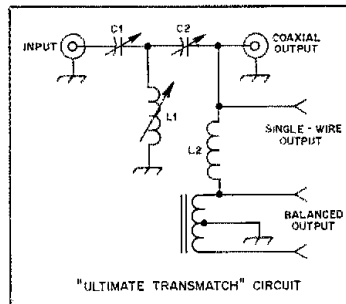

Fig. 1 — A small coil, L2, is added to the basic Transmatch circuit when needed to increase the effective value of output capacitance.
Fig. 1 — A simplified wiring diagram showing how the operating voltage is applied to the remote VFO jack in the FT-101ZD. Note that the EXT switch has been selected and the VFO switch is "out."
the switches are mechanically interlocked, it should become easier to trace the paths. The switches shown in the FT-101ZD diagram are arranged such that all are in the "out" position with the exception of the internal VFO button which is "in." The diagram of Fig. 1 shows the '101ZD switches set with the EXT button depressed and the VFO button "out." This allows +6 V to appear at J4, pin 3, to power the remote VFO. This voltage is also applied to the proper LED on the '101 display panel. The TX EXT and RX EXT buttons also route the required operating voltage to the remote VFO socket. With these switching choices, RL01 of the transceiver enters into the picture as well.
In tuners like the Dentron, Heath, Ultimate Transmatch and others, the output capacitor is connected to the single-wire antenna terminal. This is then connected with an external connecting link to one of the balanced feed terminals. By substituting a small air-wound coil of about 2.4 μH for the link (as shown in Fig. 1), the effective value of output capacitance can be increased. The reasoning behind this is as follows: The coil is in series with the output capacitor, which has a maximum value of approximately 500 pF in the Dentron tuner. The resonant frequency of this series L-C combination is just above 75 meters, at 4.6 MHz. A series circuit just below resonance behaves like a capacitor of very low impedance. This is another way of saying that it behaves like a large value of capacitance, larger than the actual capacitor alone.
□ There are three errors in Fig. 1, page 45, of "A Static Morse Keyboard," January 1980 *QST*. Directly under Q1, a wire should be added from the anode of the left-most diode to the base of Q1. A 100-kΩ resistor should be added from the number 12 "B" coordinate line to ground, on the anode side of the diode. In keeping with *QST* style, a connection dot should be added where the cathode of the fifth diode up from the bottom of the schematic meets the vertical line to the right.